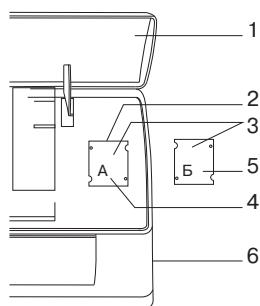

Рис. 2
Indoor unit control cable connection (20) (fig. 2)
- 1) Remove the cover (3) from the indoor unit (7) to access the terminal block (2);
- 2) When connecting the wires to the indoor unit terminal block (2), follow the annexed connection diagram (see, Annex 1);